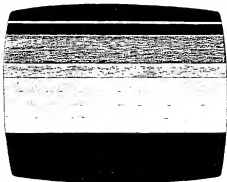

Figure 3A-2. Gray Bar Screen
- Procedure: Press key 3 followed by START.
- Format: Eight horizontal gray bars are displayed, going from black at the top to white at the bottom in even steps (see Figure 3A-2). The screen should be steady and unchanging. These lines may have minor glitches on their edges. A thin white line always appears just over the top (black) bar. No color should appear anywhere on the screen. The areas above the top (black) bar and below the bottom (white) bar are of no importance to the test. This test should be left on for at least ten seconds to ensure that there is no flashing of any color or shifting of the gray bars.